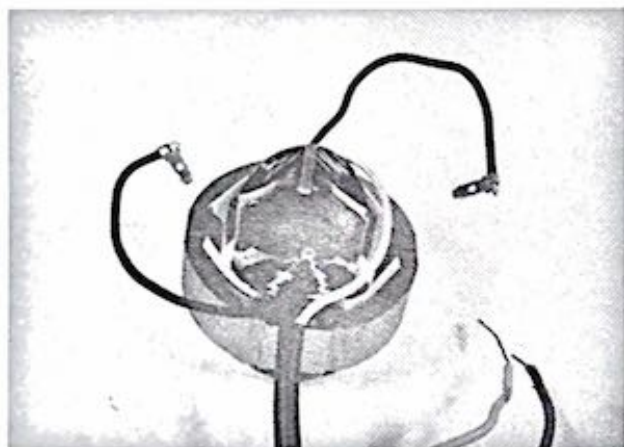

Fig. 1-65
The changeover to the external attaching of the field terminal clips to the carbon brush holder has created a bit of a problem when confronted with complete motor replacement. To facilitate installation of the field and eliminate the possibility of reversed motor operation, we invite your attention to figures 1-65 and 1-66.
1. Position the field and wires as in figure 1-65